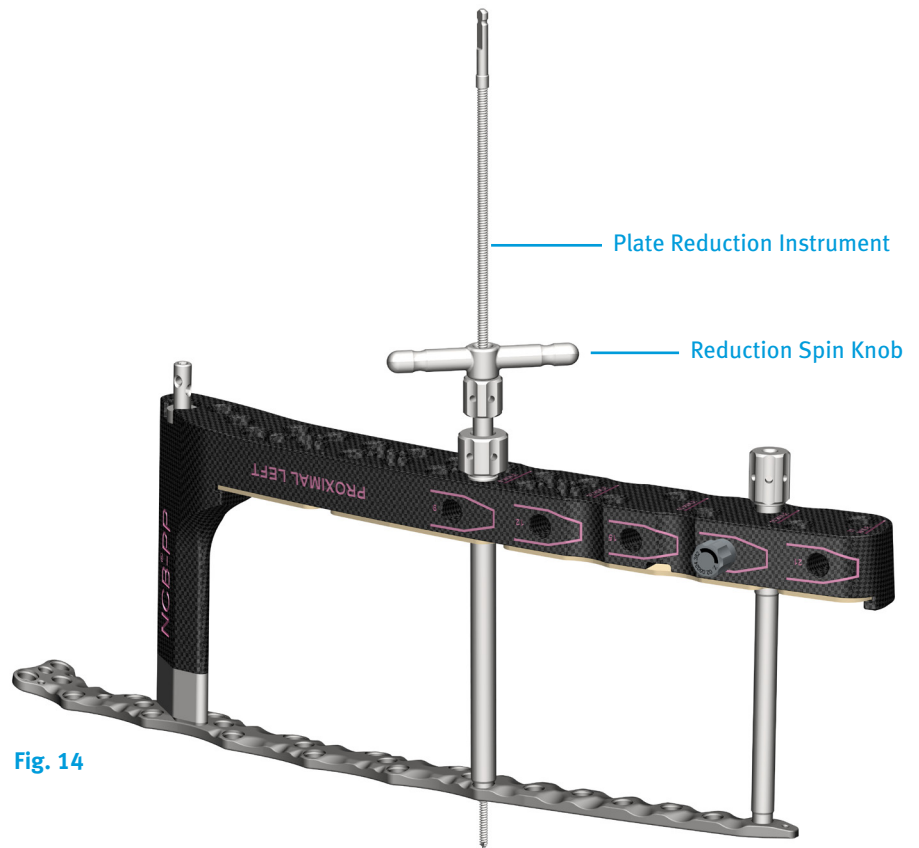

Fig. 14
4. Turn the Spin Knob against the Drill Guide until it provides the desired amount of compression (**Fig. 14**).